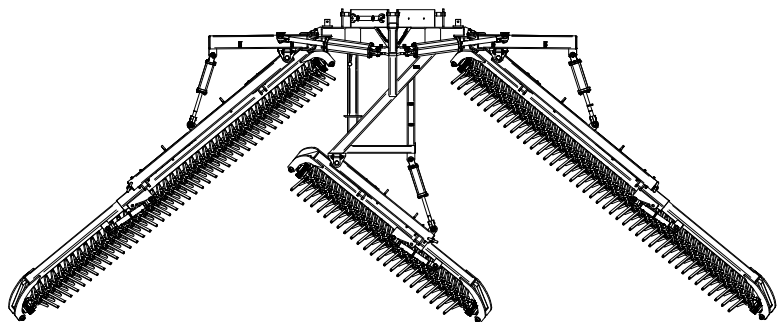

FIGURE 5: 25° to 30° Angle
6. If the overall length of the turnbuckle exceeds 27" from bolt eye center-to-center the turnbuckle will need to be shortened to allow it to be repositioned onto the shorter lug hole location, hole B, so that it is oriented as shown (fig. 5).
8. If the turnbuckle has been repositioned and it's overall length exceeds the 27" specification listed in step 6 above again, it is recommended to remove 2 pairs of harrow tines (4 teeth total) from the chain and adjust the turnbuckle length to restart the tension adjustment process again. It may be necessary to relocate the turnbuckle back to hole A (fig 5) after removing tines.